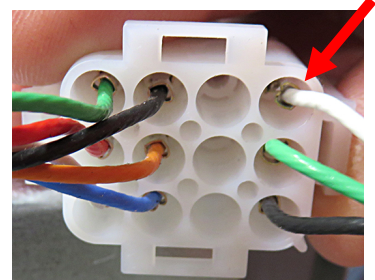

Figure 21
23. Insert the white wire into Pin 3 (see Figure 21).